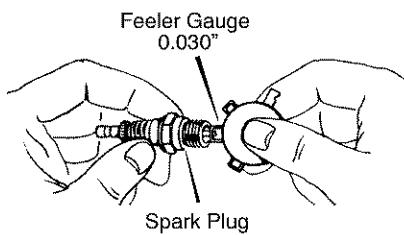

Figure 13
2. Check the **spark plug** gap with a **feeler gauge** and reset gap to 0.030" if necessary. See Figure 13.